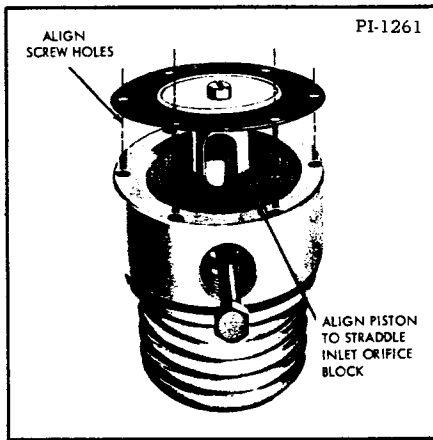

Fig. 183 Aligning Piston to Body
4. Position the assembled diaphragm and piston into the bore (Figure 183) so that the piston straddles the inlet orifice block without rubbing against it.
5. Align the six screw holes of the diaphragm with the holes in the vaporizer head and tighten the diaphragm screw (Figure 183). Hold the diaphragm and retainer to keep them from moving when tightening the screw.